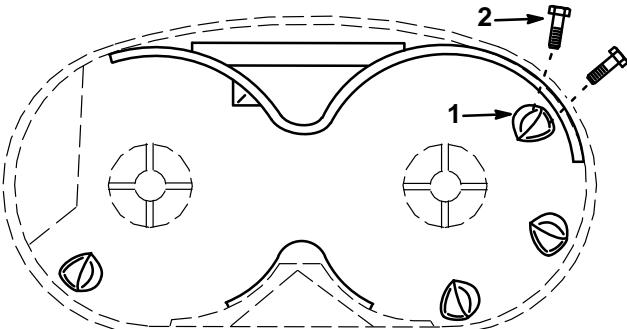

Figure 3
1. Install kicker plates with holes toward top of deck using $\#8$ x $5/8$ " screws (Fig. 3). Screws are installed from top of deck. Long slope on kickers must be positioned in a clockwise direction as viewed in Figure 3.